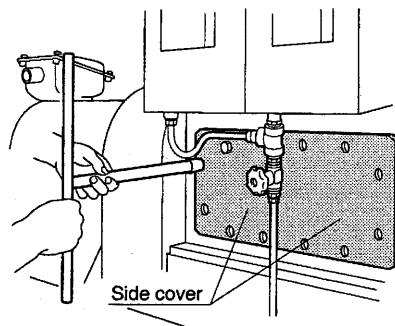

Fig. 17
- (1) Remove the side cover from the crank case. (Fig. 17)